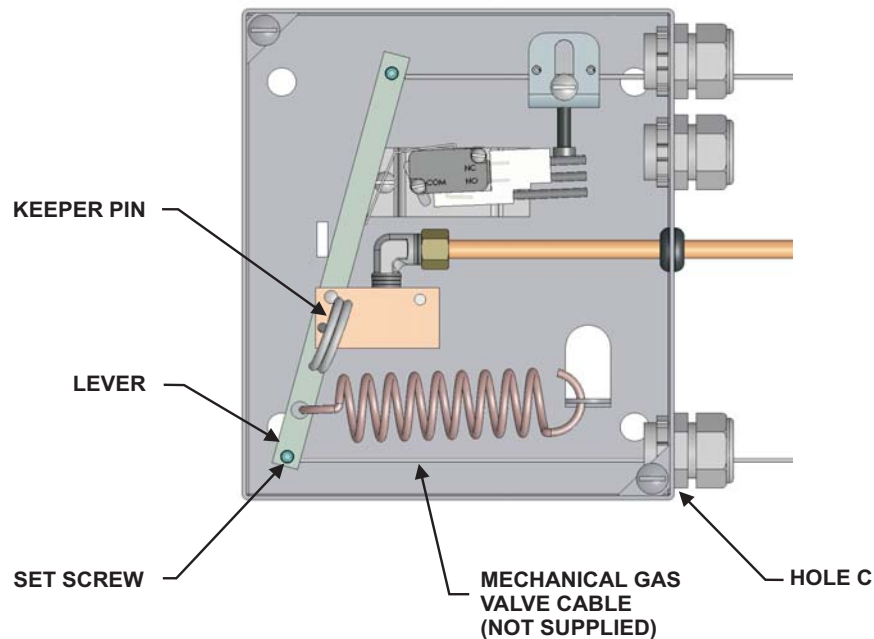

Figure 4-65. Cabling Mechanical Gas Valve Cable in the A+ Control Box
The A+ Control Box can close one mechanical gas valve upon actuation by relaxing the 1/16-inch (2 mm) stainless steel cable installed from the gas valve through conduit and Corner Pulleys to the hole on the valve body lever, next to the spring connection (Figure 4-65).
3. Connect 1/2-inch (13 mm) EMT to hole "C" on the side of the A+ Control Box (Figure 4-65).